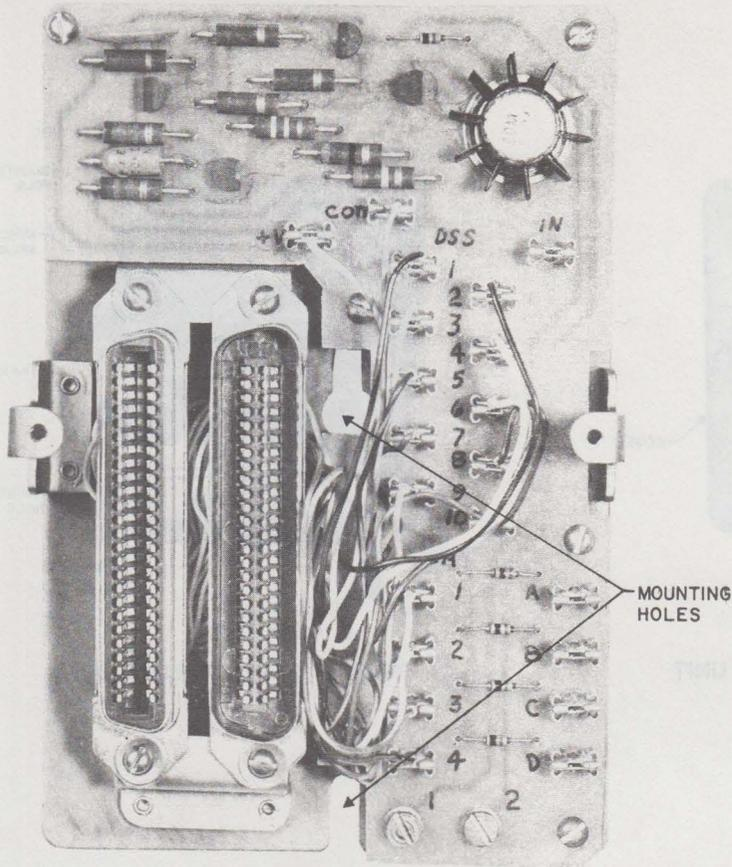

FIGURE 5. 25 A BASE PAN ASSEMBLY
- (1) Connect the auxiliary signal and power supply to KS-16626, L12 relay set and/or KS-16301, L17 relay set per BSP 463-120-100 or BSP 463-110-100, respectively.
- (2) If the auxiliary signal is to respond to any one DSS code, move the spade-tip lead associated with that code from terminals DSS 1-10 to terminal IN (Figure 5).
- (3) If the auxiliary signal is to respond to any combination of common audible signals (CA 1 through 4), move the spade-tipped lead associated with that line and/or lines to the A through D terminals, respectively.